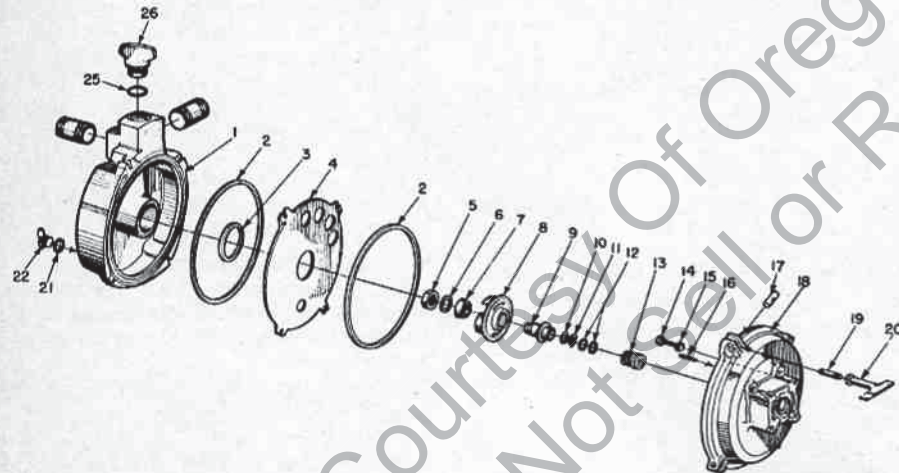

Fig. HL11—Exploded view of trash pump. End housing and impeller must be removed from impeller housing to allow housing to be unbolted from engine.
TRASH PUMP. The trash pump (Fig. HL11) impeller (8) is mounted on tapered bushings so that if a solid object lodges in pump, the shaft can spin in impeller.